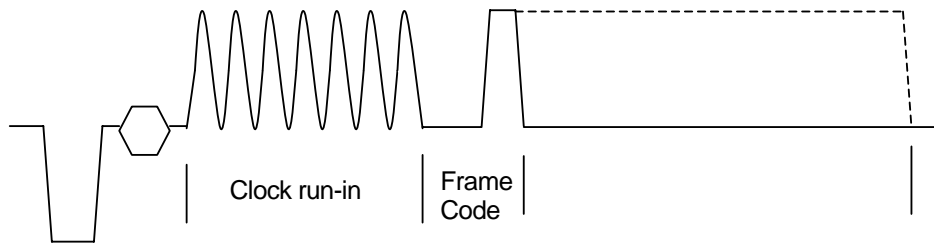

Figure 5 Typical CC/EDS scan line waveform
Closed Caption (CC) vertical blanking interval scan lines are on the odd field NTSC line 21. Extended Data Services (EDS) scan lines are on the even field NTSC line. A Closed Caption (CC) scan line on an NTSC-based system is made of 25 bit periods at a 0.503MHz rate. The data is an analog signal beginning with a packet header. It contains a Clock Synchronization Code consisting of 14 bits of double-frequency run-in clock at 1.006 MHz, a 2-bit framing code. The data of 16 bits/2 bytes follows the packet header. Each of these 2 bytes is a 7 bit + odd parity ASCII character which represents text or control characters for positioning or display control. For the purposes of CC or EDS, only the Y component of the video signal is used. Therefore, the input composite video has to go through the Y/C separation to extract Y component for further decoding. The TW8806 can be programmed to decode CC or EDS data by setting register 0x1B. Since the CC and EDS are independent, there could be one or both in a particular frame. A typical waveform is shown in Figure 5.